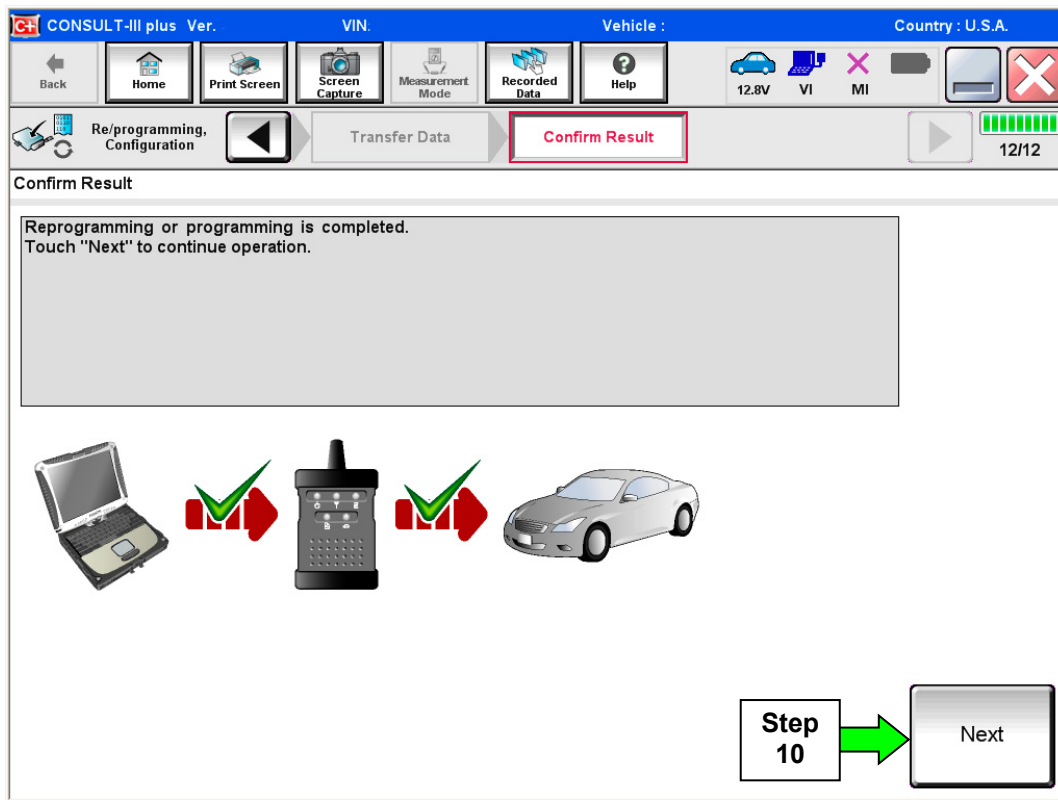

Figure 5
8. When the screen in Figure 5 displays, reprogramming is complete.
NOTE: If the screen in Figure 5 does not display (which indicates reprogramming did not complete), refer to the information on the next page.